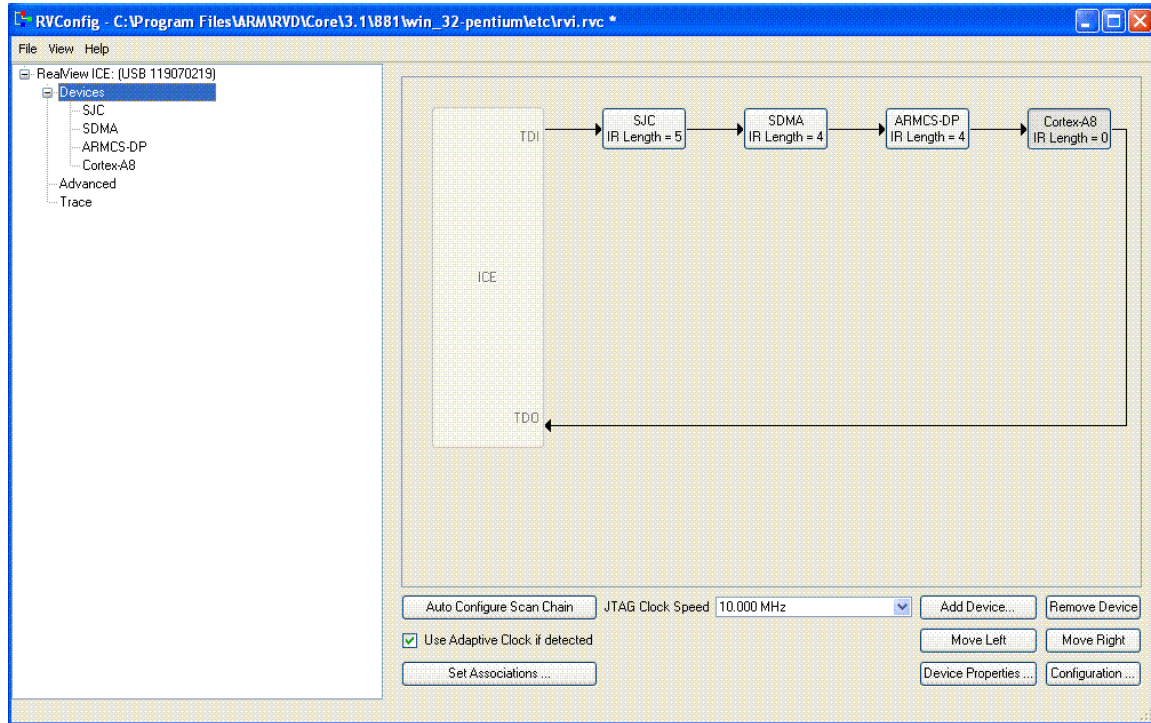

Figure 2. i.MX53 JTAG Scan Chain
6. Configure scan chain as follows (see Figure 2):